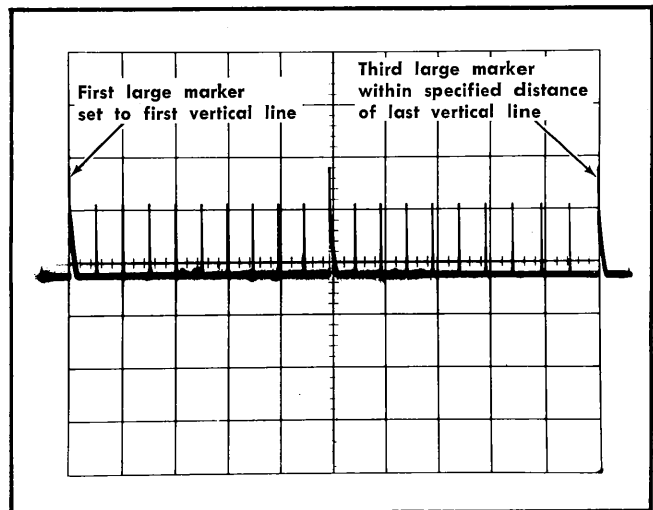

Fig. 5-23. Sweep timing waveform for step 4. Sweep rate —0.2 ms/div (1 ms/div and 5× magnification); vertical sensitivity - 1 volt/div.
d. Connect the 50 Ω BNC termination (item 21) to the 3A74 Channel 2 Input connector. Then connect a 50 Ω coaxial cable between the termination and the MARKER OUTPUT connector of the Type 184 Time Mark Generator (item 11).
f. Adjust the 2B67 (TRIGGERING) LEVEL control as necessary to obtain a triggered display which has large markers positioned approximately 5 divisions apart. Adjust the CRT INTENSITY as necessary for convenient viewing. See Fig. 5-23.
g. Adjust the 2B67 POSITION control as necessary to set one large marker exactly at the first vertical line at the left edge of the graticule, as in Fig. 5-23.
h. CHECK—Basic magnified sweep timing accuracy. The third visible large marker should appear on the last vertical line at the right of the graticule, as in Fig. 5-23.
i. ADJUST—Basic magnified sweep timing. Adjust CAL, R334 (located on 2B67 front panel) as necessary to set the sweep timing so that the first and third visible large markers coincidentally appear exactly on the first and last vertical graticule lines as in Fig. 5-23.